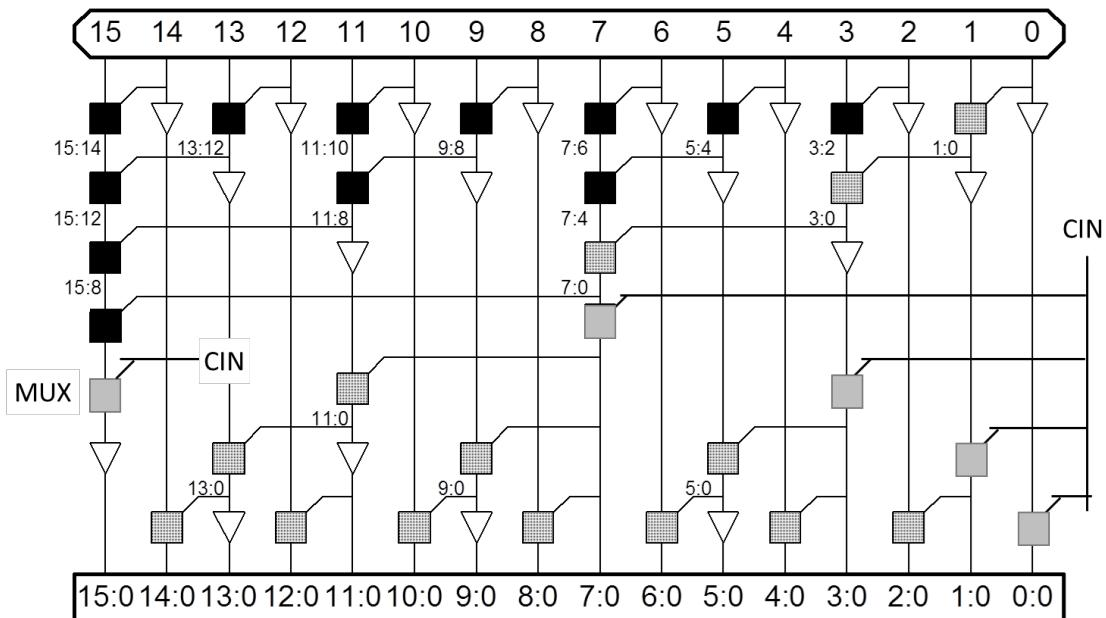

Figure 4: The prefix tree for a 16-bit Brent-Kung adder
a. Figure 4 below shows another type of 16-bit prefix-tree adder than the Sklansky adder, namely the Brent-Kung adder. The prefix-adder solution involves an inverse tree to distribute the carries from the top tree to the SUM XOR-gates. Use your knowledge about binary trees to derive a general expression for the worst case carry delay through the prefix-trees for any size N -bit Brent-Kung adder.